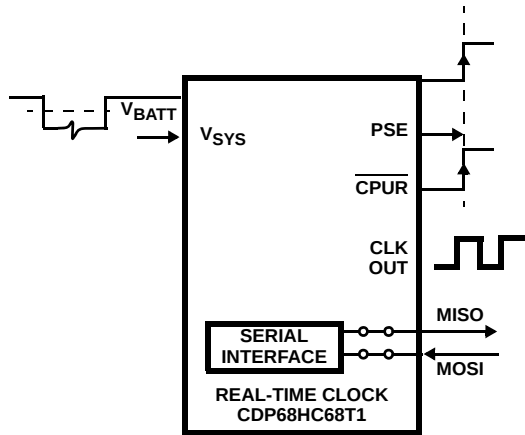

FIGURE 6. POWER-UP FUNCTIONAL DIAGRAM (INITIATED BY A RISE IN VOLTAGE ON THE " $V_{SYS}$ " PIN)
### Watchdog Function (See Figure 6)
2. The second condition that releases Power-Down occurs when the level on the  $V_{SYS}$  pin rises about 1.0V above the level at the  $V_{BATT}$  input, after previously falling to the level of  $V_{BATT}$  (see Figure 6) in the Battery Backup Mode or  $V_{SYS}$  falls to logic low and returns high in the Single Supply Mode.